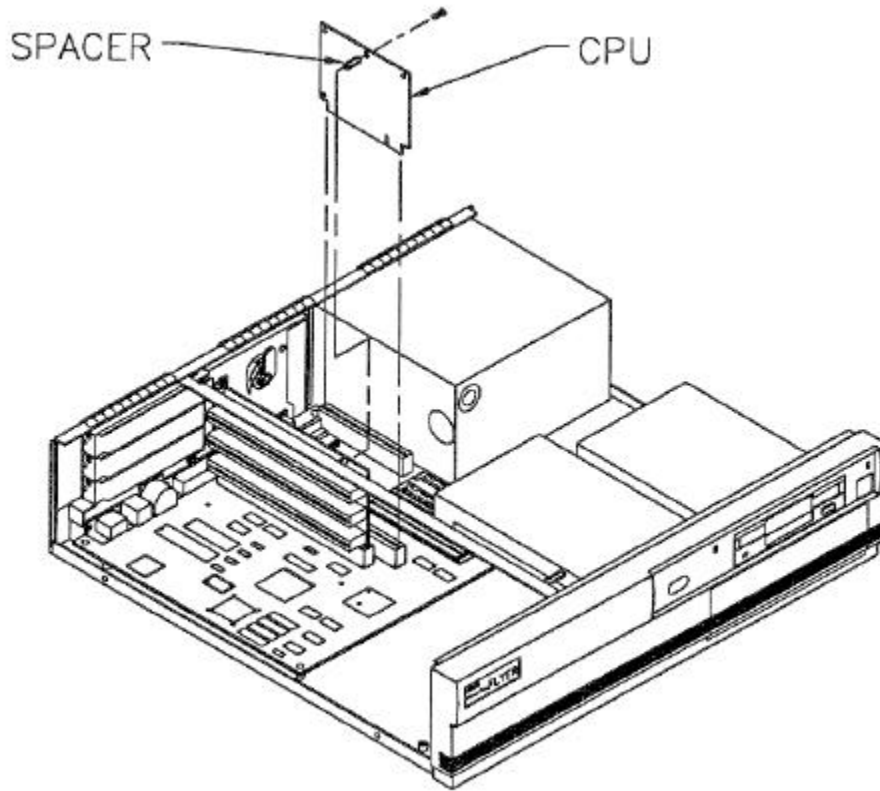

Figure 3-3: Removing the ALR CPU Module
2. Using a Phillips screwdriver, untwist the screw securing the top of the CPU card to the FLYER 32DT chassis. Remove the screw and spacer, being careful not to let any hardware fall on the system board. Refer to Figure 3-3 for details.
1. Insert the CPU module into the CPU slot, referring to Figure 3-3 if necessary. Apply even pressure until it is fully seated. Verify that the module is facing the correct way and is not cocked.